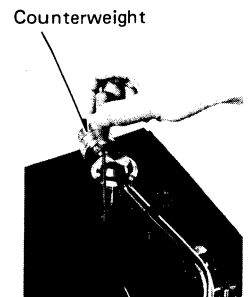

Fig. 32
### 10-(4) Tonearm Elevator Height Adjustment (Fig. 32)